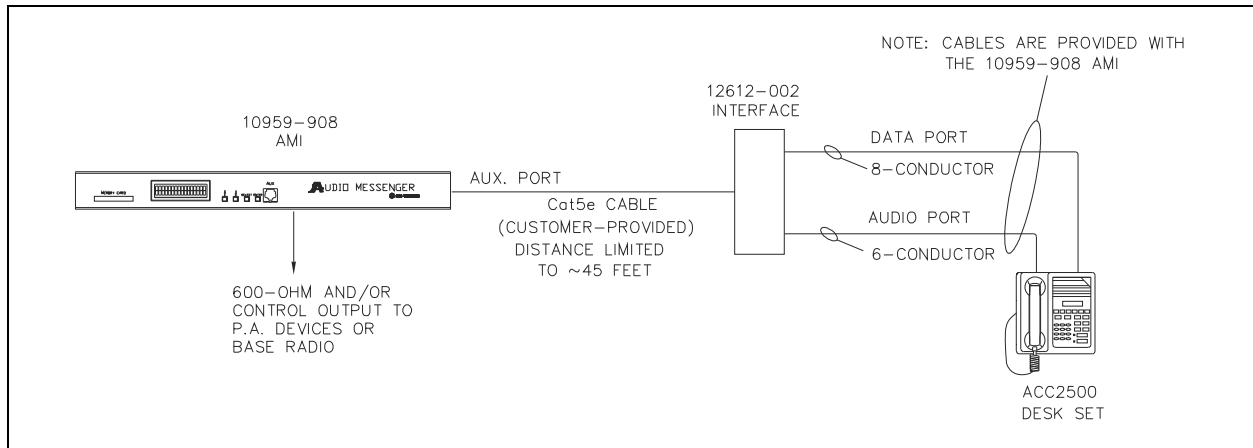

Figure 4. Typical ACC2500 Connection Diagram
2. Connect a (customer provided) up to 45-foot long, 8-conductor, Cat5 Ethernet cable from the No. 12612-002 Interface to Ethernet connector J1 on the AMI (see Figure 4).